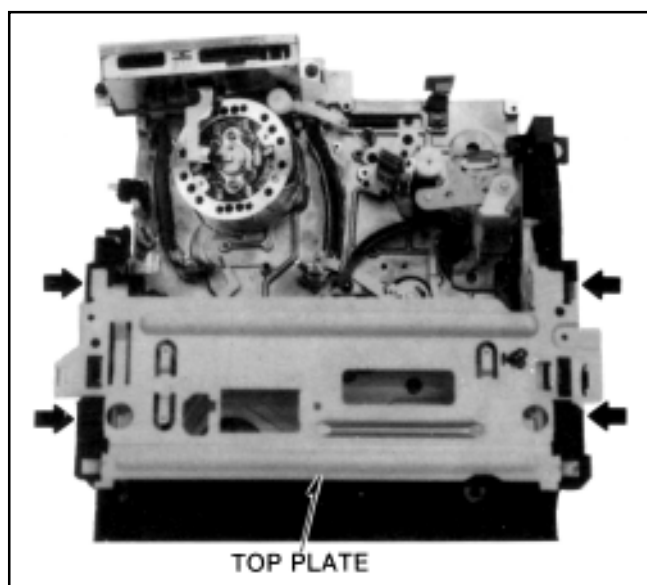

Fig. A13
- 1) Push the locking tabs from the outer side to inside as shown in Fig.A13.